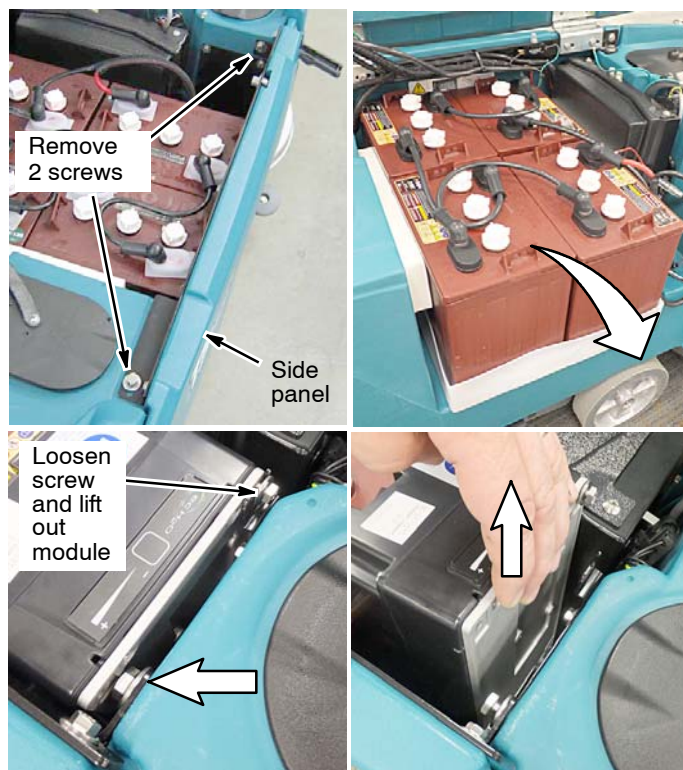

FIG. 1
5. Remove right side panel and carefully remove batteries from machine (FIG. 1). If machine is equipped with ec-H2O module, lift out module to access the side panel mounting screw. Lay module on solution tank. Do not disconnect any hose or wire connections.